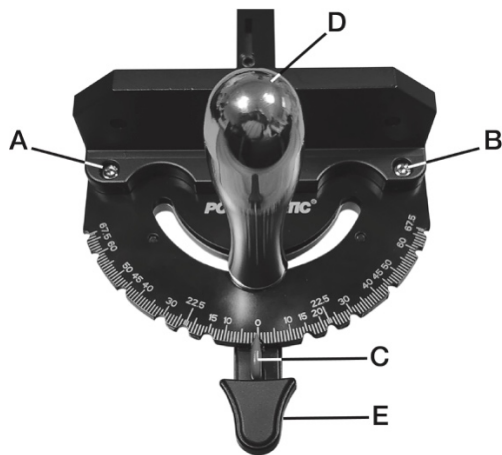

Figure 7-4
2. Loosen screws A and B as shown in Figure 7-4.
Adjusting Miter Gauge Angle for Operations (refer to figure 7-4):